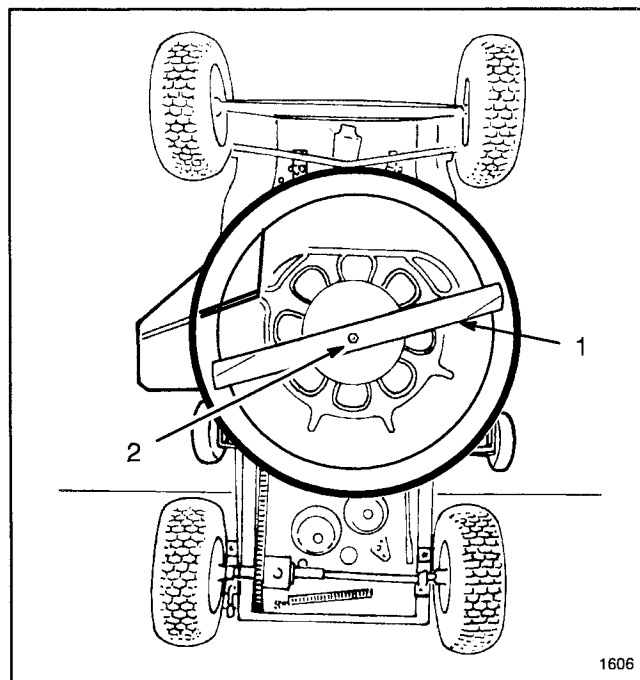

Figure 15
6. Grasp end of blade using a rag or thickly padded glove; then remove blade bolt, washer and blade (Fig. 15).
9. In sequence, reinstall blade, washer and blade bolt (Fig. 15). Tighten blade bolt to 45-60 ft-lb (61-81 N·m).
6. Remove grass clippings and dirt that are sticking to inside of housing (Fig. 15) by spraying with a garden hose. Scrape out grass and dirt that water does not remove from housing; then spray housing again.